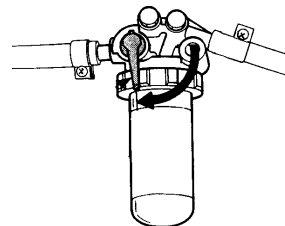

Figure 10. Fuel cock lever set to 'ON' position
1. Turn the fuel cock lever to the "ON" position (Figure 10).